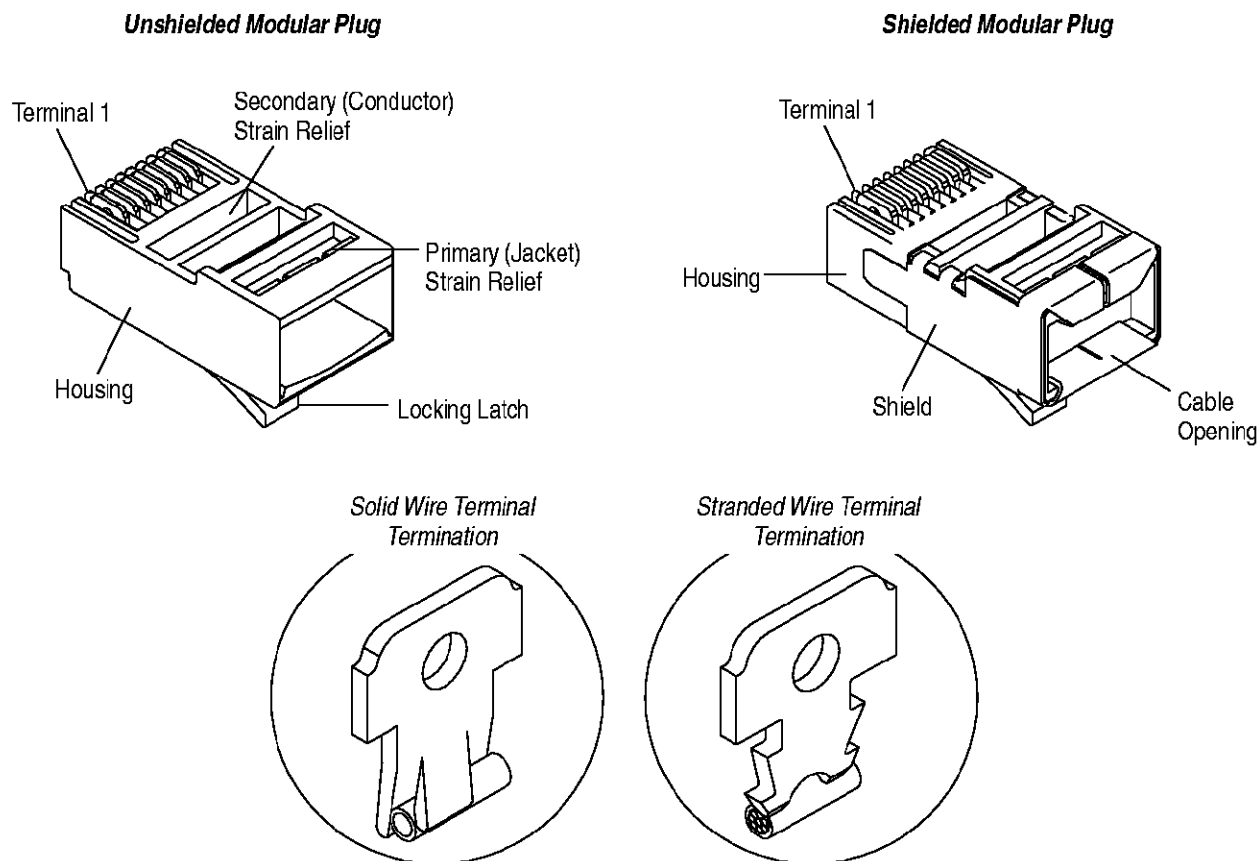

Figure 1
When corresponding with personnel, use the terminology provided in this specification to facilitate your inquiries for information. Basic terms and features of this product are provided in Figure 1.
- Modified Figures 1, 2, 3, 4, 8, and 9